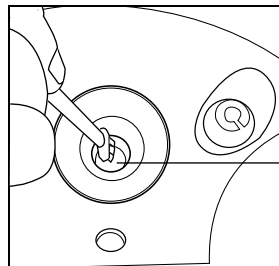

Figure 1
4. Use **ONLY** the enclosed cleaning brush to **gently** clean disk and remove build up and deposits. (Figure 1) **Do not scrub or scrape the ultrasonic disk.**
*Clean the disk with the brush only. No other cleaning tool should be used. BRUSH ONLY. (Figure 1)